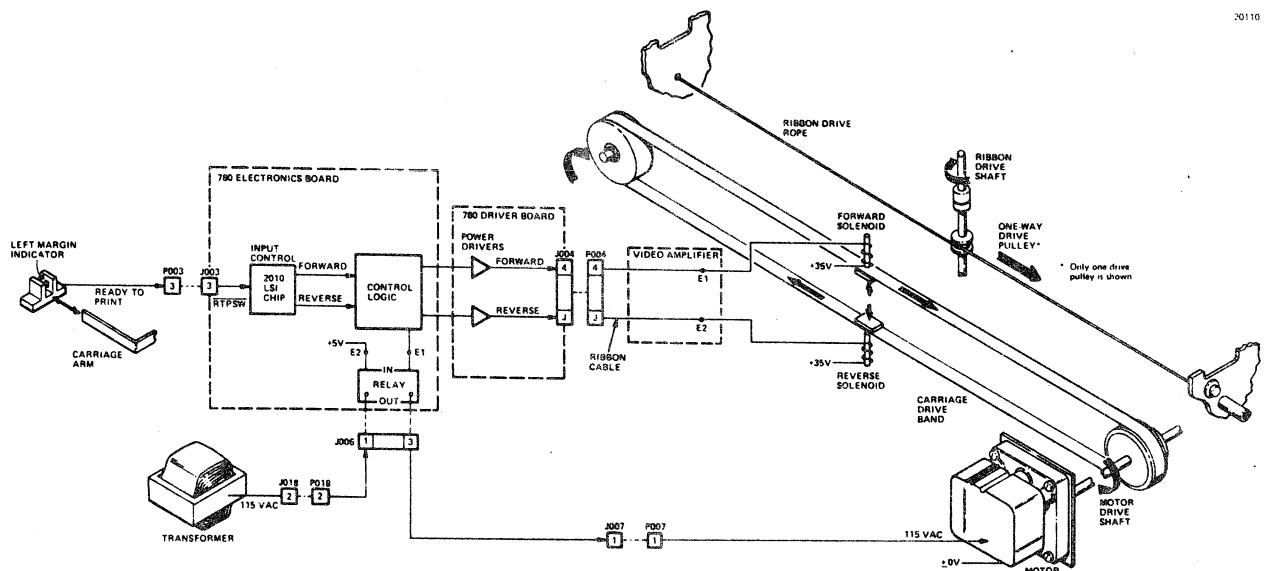

FIGURE 2-5. CARRIAGE AND RIBBON MOVEMENT
2.6 CARRIAGE AND RIBBON MOVEMENT (Figure 2-5)